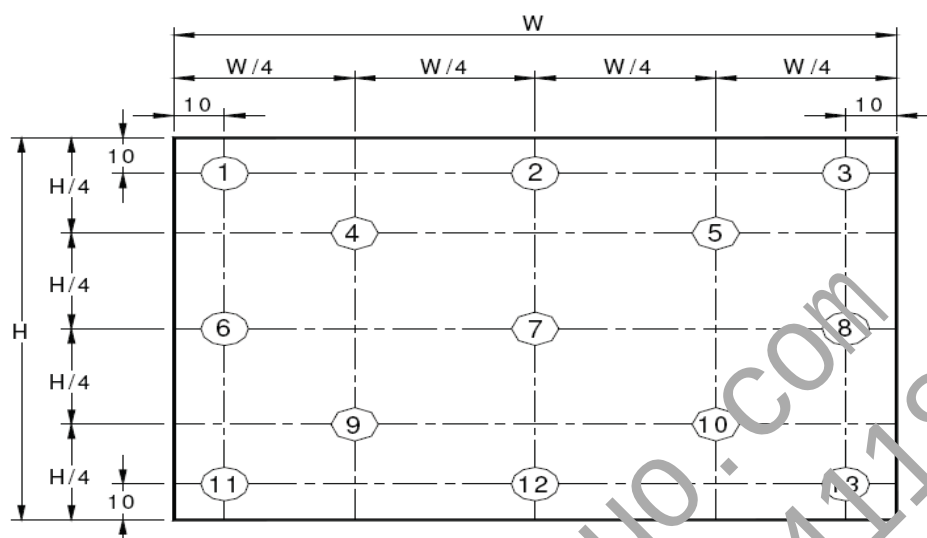

Figure 9. Uniformity Measurement Locations (13 points)
Notes : - Viewing angle is the angle at which the contrast ratio is greater than 10. The viewing angles are determined for the horizontal or 3, 9 o'clock direction and the vertical or 6, 12 o'clock direction with respect to the optical axis which is normal to the LCD surface (see Figure 7). - Contrast measurements shall be made at viewing angle of $\Theta = 0$ and at the center of the LCD surface. Luminance shall be measured with all pixels in the view field set first to white, then to the dark (black) state . (see Figure 7) Luminance Contrast Ratio (CR) is defined mathematically. $CR = \frac{\text{Luminance when displaying a white raster}}{\text{Luminance when displaying a black raster}}$ - Center Luminance of white is defined as luminance values of 5 point average across the LCD surface. Luminance shall be measured with all pixels in the view field set first to white. This measurement shall be taken at the locations shown in Figure 8 for a total of the measurements per display. - The White luminance uniformity on LCD surface is then expressed as : $\Delta Y = \text{Minimum Luminance of 5(or 13) points} / \text{Maximum Luminance of 5(or 13) points.}$(see Figure 8 and Figure 9). - The color chromaticity coordinates specified in Table 5 shall be calculated from the spectral data measured with all pixels first in red, green, blue and white. Measurements shall be made at the center of the panel. - The electro-optical response time measurements shall be made as Figure 10 by switching the “data” input signal ON and OFF. The times needed for the luminance to change from 10% to 90% is T_r, and 90% to 10% is T_f. - Cross-Talk of one area of the LCD surface by another shall be measured by comparing the luminance (YA) of a 25mm diameter area, with all display pixels set to a gray level, to the luminance (YB) of that same area when any adjacent area is driven dark. (See Figure 11).
The White luminance uniformity on LCD surface is then expressed as : $\Delta Y5$ = Minimum Luminance of five points / Maximum Luminance of five points (see Figure 8) , $\Delta Y13$ = Minimum Luminance of 13 points / Maximum Luminance of 13 points (see Figure 9).